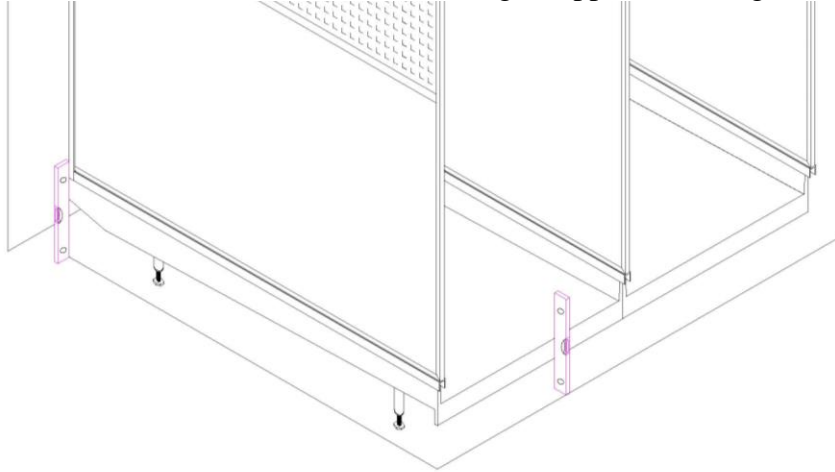

Fig. 2
1. After units have been set in place, leveled, and plumbing connected, use a level and chalk line to mark the floor location of Front Trim Panel angle supports. See Fig. 2.